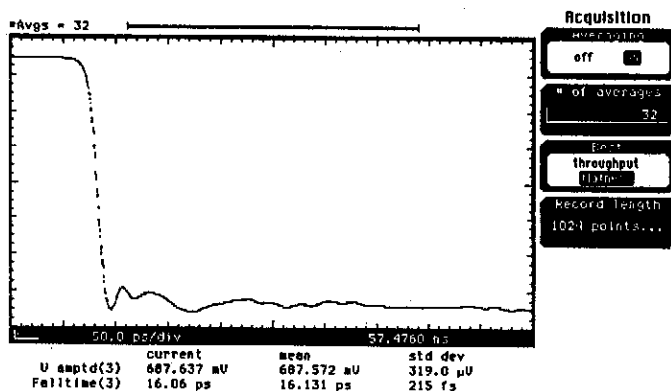

Figure 7: Attenuated 4015 Pulse 100 mV/div and 50 ps/div.
8. Push "Time Base" for menu. Set "Reference" = left. Adjust the "Position" control to set the leading edge of the 4015 pulse to the left side of the screen. Set "Scale" = 50 ps/div. Now readjust the "Position" control as necessary to set the leading edge of the pulse to 1.5 divisions from the left side. See Figure 7.
10. Now measure the 4015's attenuated pulse amplitude and falltime. Use the blue "measure" buttons "V amptd" and "Fall". Select "channel 3" for each and push "enter". See Figure 7. Clear these measurements.